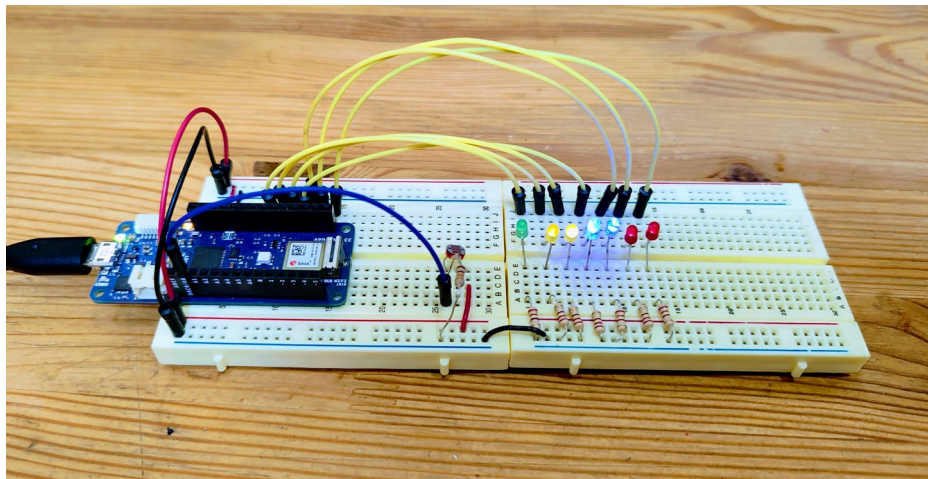

Figure 7 – An example light sensitive LED bar graph
- b) Add more LEDs to your system and create a light sensitive LED bar graph (see Figure 7 for an example).